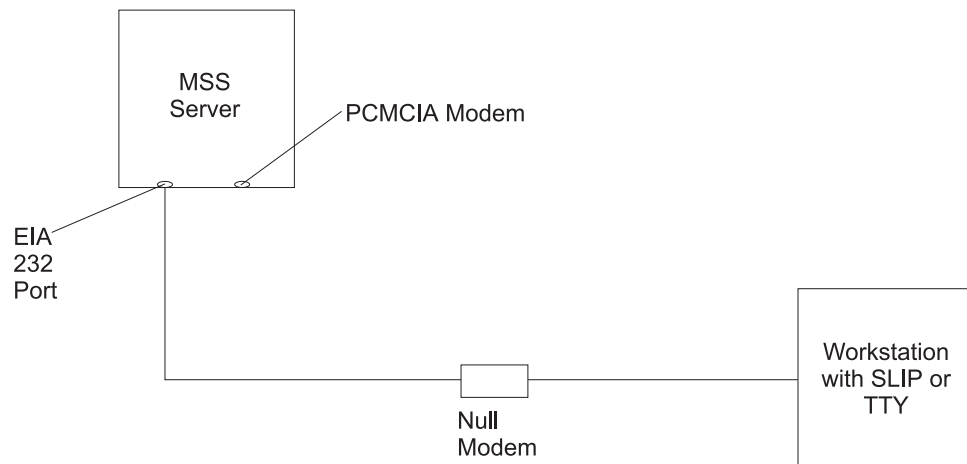

Figure 3-1. Local Serial Connection to the EIA 232 Port
- A local connection through a null modem cable attached to the EIA 232 service port (see Figure 3-1 on page 3-2)